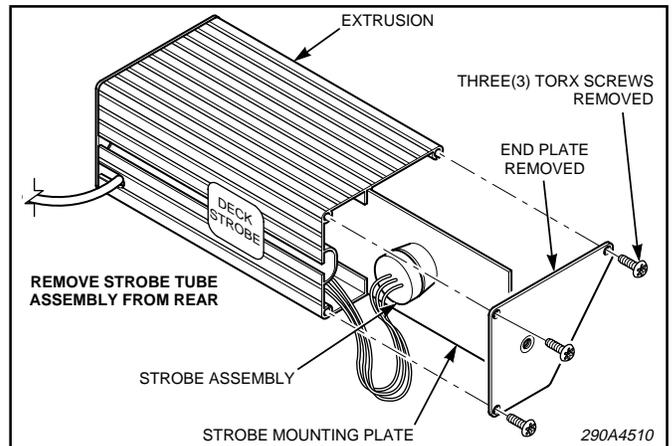

Figure 3.
- See figure 3. Remove and retain the screws which secure the back cover to the mounting bar.